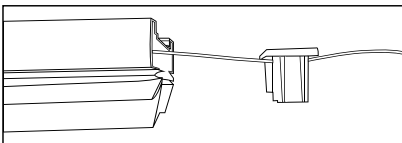

Fig.1
2. Turn the end cap so it is oriented as shown in Fig.1.